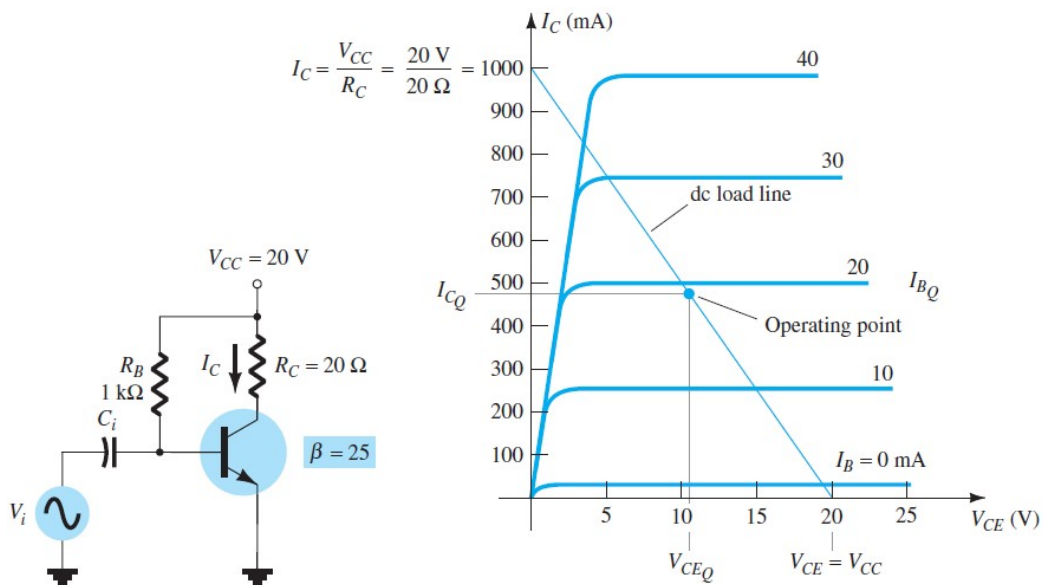

Fig.5
**EXAMPLE 1:** Calculate the input power, output power, and efficiency of the amplifier circuit in Fig. 5 for an input voltage that results in a base current of 10 mA peak.